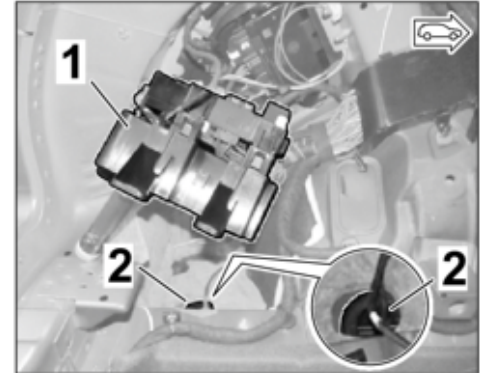

Figure 21
3.3.1 Loosen the fuse box with holder in the left rear trunk and swivel it aside. ⇒ *Figure 21* ⇒ *Workshop Manual '978409A8 Loosening and securing fuse box in the boot'*